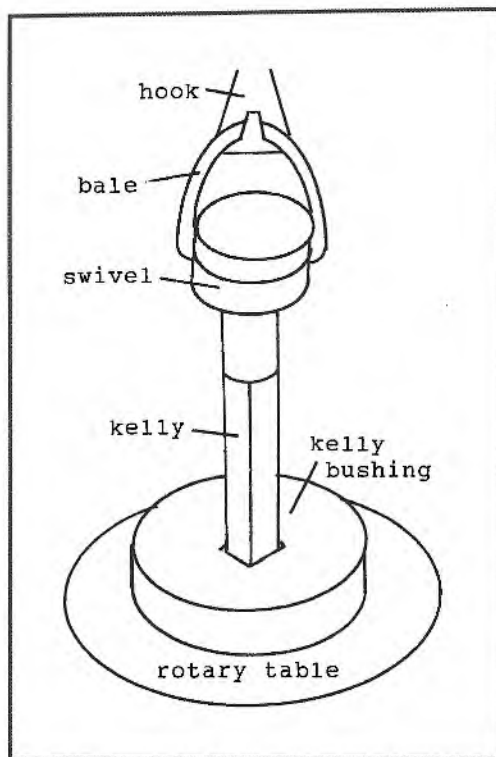

FIG. 6-8 Conventional Rotating System
1. The **conventional rotating system** is used with most onshore wells and many offshore wells (FIGURE 6-8). The kelly joint, with the rest of the drillstring suspended below it, passes through the kelly bushing and attaches to the swivel hanging from the drilling hook. The rotary table spins the kelly bushing, whose flat-sided hole matches the flat sides of the kelly. This rotates the drillstring and bit.